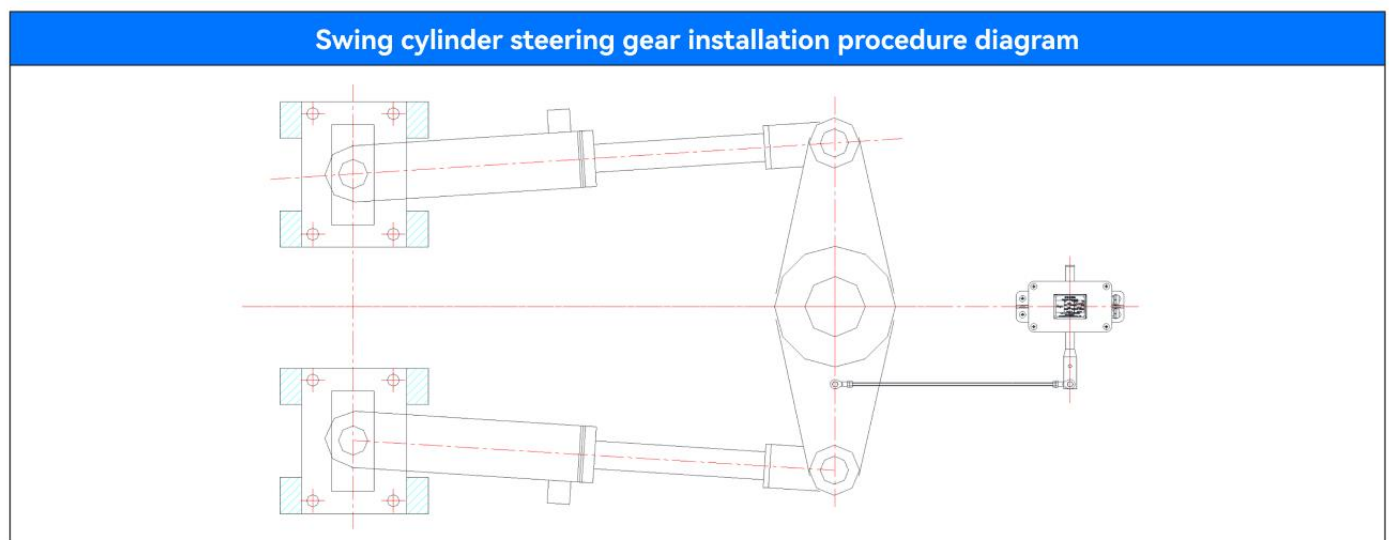

Figure 3.1
1. Installation of tilting cylinder steering gear rudder Angle feedback device: tilting cylinder steering gear rudder Angle feedback device is suitable for installation on the front and rear side of the rudder rod, please adjust according to the specific layout and position space of the rudder engine room. First, straighten the rudder and keep the rudder Angle in the middle. Refer to Figure 3.1, the distance between the center of the tiller and the center of the feedback device is $AC=BD$, the length is about 500MM, and the length of $AB=CD$ is about 150MM, forming a parallelogram ABCD, otherwise the linear error of the rudder Angle feedback is large and the left and right are asymmetrical.